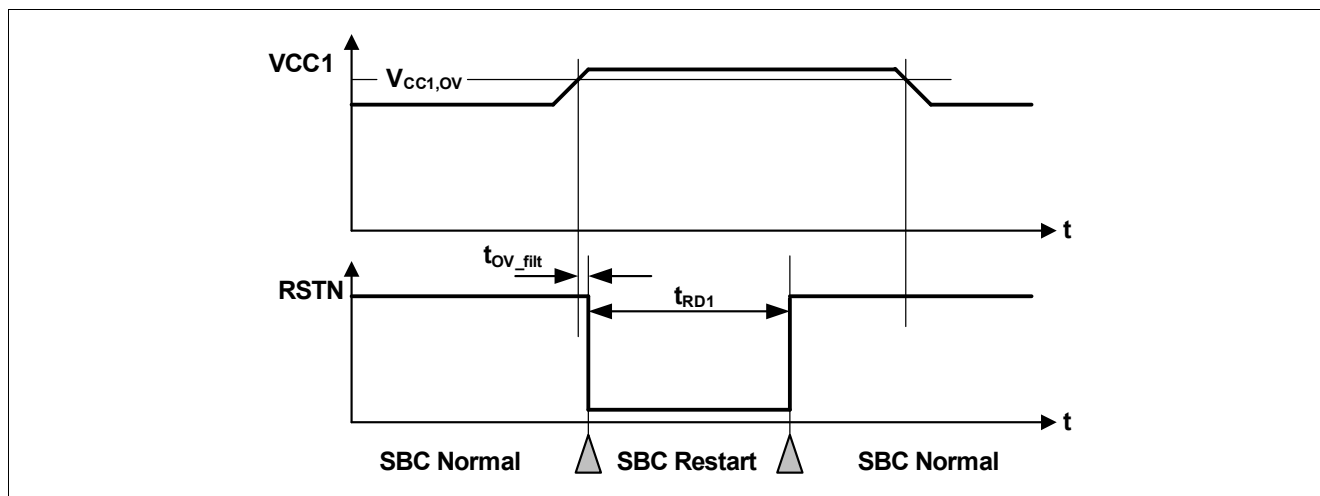

Figure 43 VCC1 Over Voltage Timing Diagram
- If the bit `VCC1_OV_RST` is set and `CFG0_STATE` = '1', then SBC Restart Mode is entered. The FO output is activated. After the reset delay time (t_{RD1}), the SBC Restart Mode is left and SBC Normal Mode is resumed even if the VCC1 over voltage event is still present (see also Figure 43). The `VCC1_OV_RST` bit is cleared automatically;